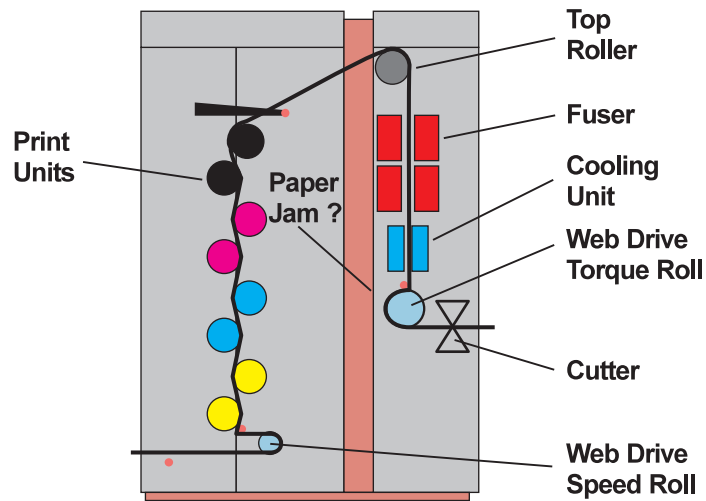

Figure 275. Fixed Tower Cooling Unit
- 2 Determine whether a paper jam has occurred around the roll located under the cooling unit, as shown in Figure 275 on page 348, and then do either step 2a on page 348 or step 2b on page 348.